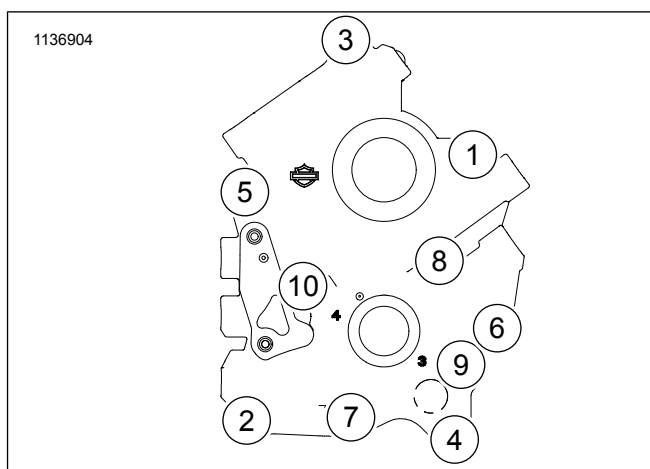

Figure 1. Cam Support Plate Tightening Sequence
2. Refer to Figure 1. Follow modified tightening sequence.